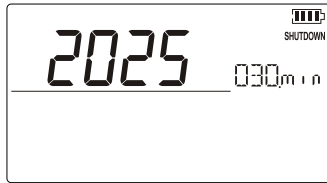

Figure 2.1-3
- Then the type of product and automatic shutdown time will be displayed for 2 seconds as shown in Figure 2.1-3.